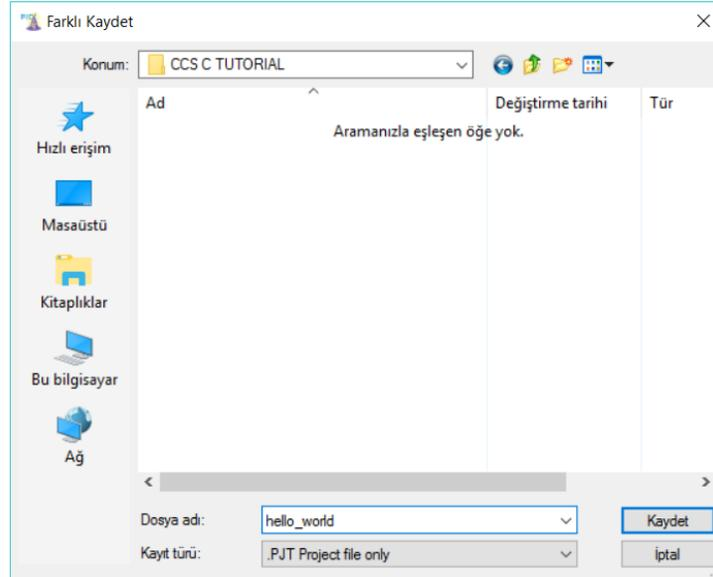

Figure-3
- 3) Open new file “CCS C TUTORIAL” and write file name “hello_world” in the **Figure-3** window and click **SAVE**.